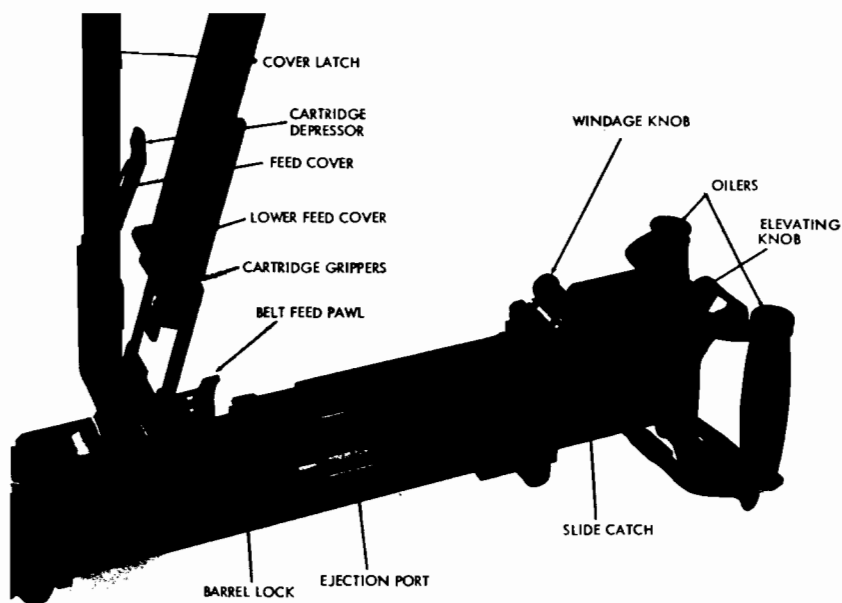

Figure 72. Goryunov machinegun, receiver details.
c. Open the feed cover by pressing the cover catch (fig. 72) forward and swing up the cover. Place the belt in the feedway with the rim of the first cartridge between the cartridge feed slide grippers (fig. 72); then close the cover. Pull the operating handle fully to the rear and push it fully forward. Caution: The machinegun is now ready to fire!
d. Lift the rear sight leaf to a vertical position and adjust it for the desired range by pressing the slide catch (fig. 72) and moving the slide along the leaf until the upper edge of the
slide is alined with the line below the number that corresponds with the range in hundreds of meters. Final fine adjustment is made by the elevating knob (fig. 72), and lateral adjustment can be made by the windage knob (fig. 72). Use the range figures on the right side of the leaf when firing light bullets (Type L or LPS) and the left side of the leaf when firing yellow-tipped heavy bullets. The front sight is adjustable for windage and elevation zero; loosen the nut on the front-sight base and move the sight from side to side as necessary to zero, and screw the post in or out as necessary for elevation zero.
f. To unload or clear, open the cover by pressing the cover catch forward. Lift the belt from the feed slide pawls (fig. 72) and remove it. Lift the lower feed cover and remove the cartridge from the cartridge grippers. Inspect to insure that no cartridges remain in the gun. Pull the operating handle to the rear, and, while holding it, raise the safety, press the trigger, and ease the operating handle forward. Close the covers and lower the rear sight.
f. The sights are similar to those of the Goryunov machinegun. Refer to figure 72 and paragraph 120d for the method of operating the sight. The 12.7-mm sight has only one scale on it.